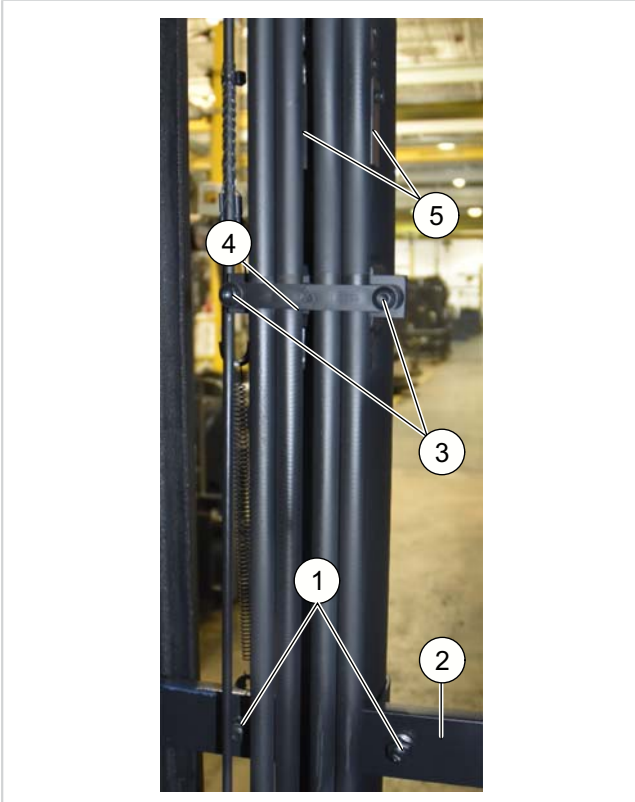

Fig. 137 (35094)
- See Figure 137. Remove the screws and the nuts (1) from the cylinder bracket on the middle brace (2) of the inner mast.